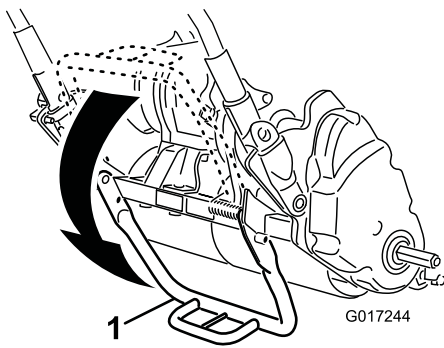

Figure 17
1. Push the kickstand down with your foot and pull up on the handle support until the kickstand has rotated forward, over center (Figure 17).